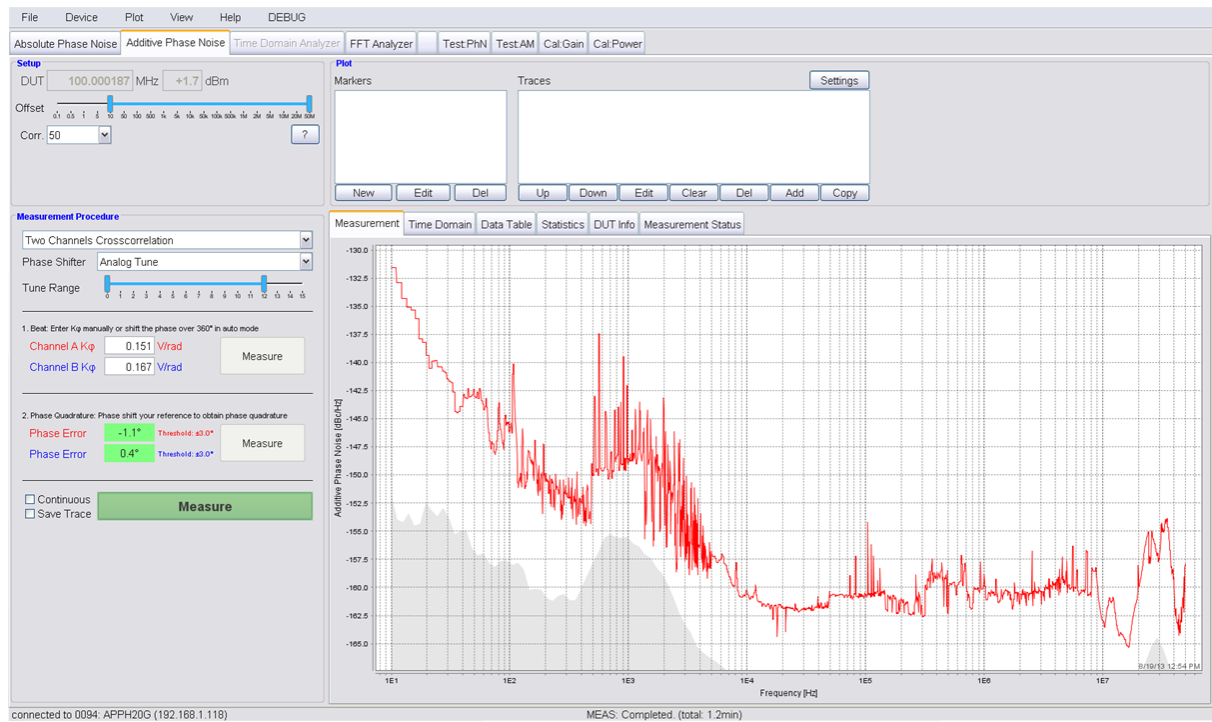

Figure 18 Additive phase noise measurement tab after the measurement completed.
3. Finally, the actual measurement can be started by pressing the green “Measure” button as shown in Figure 18. Measurement can be stopped and restarted without need of performing step 1 and 2 each time.